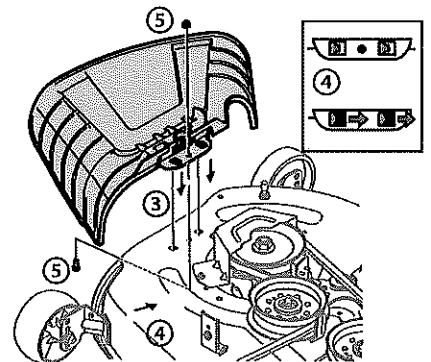

Figure 2-11
3. Place the chute deflector on the deck, be sure to insert the tabs on the chute deflector into the holes on the deck. See Figure 2-11.
4. When the tabs are installed in the deck, slide the chute deflector toward the rear of the tractor until the bolt hole in the chute deflector aligns with the hole in the deck. See Figure 2-11.
5. Secure the chute deflector in place with the flange lock nut and hex screw removed in step 2. Tighten to 102-124 in-lbs. See Figure 2-11.